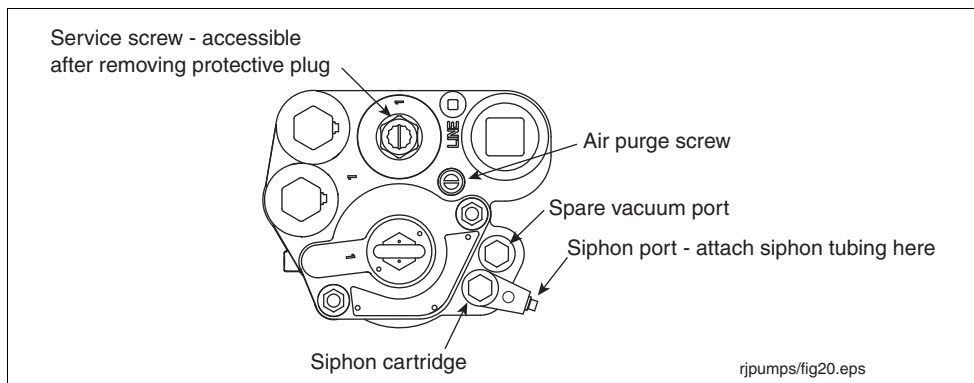

Figure 20. Siphon Ports
2. Remove and save the protective plug over the service screw and turn the screw clockwise (see Figure 20). As the screw approaches its bottom position, you will hear the system depressurizing. Continue turning the screw until it can go no further. When the screw is all the way down, backoff the screw 4 turns to lift the check valve and let the fuel drain out of the manifold's hydraulic cavities.
3. Remove one of the two siphon port plugs from the manifold (see Figure 20).
9. Turn the air purge screw 2 - 3 turns counterclockwise (see Figure 20).